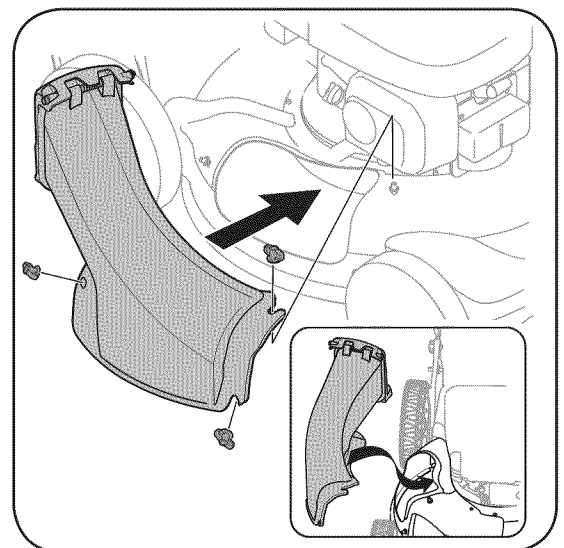

Figure 3-4: Use wing nuts to secure discharge chute to deck.
- b. Replace with discharge chute, while making sure the front lip of chute goes under the edge of the deck. Secure with wing nuts previously removed, Figure 3-4.